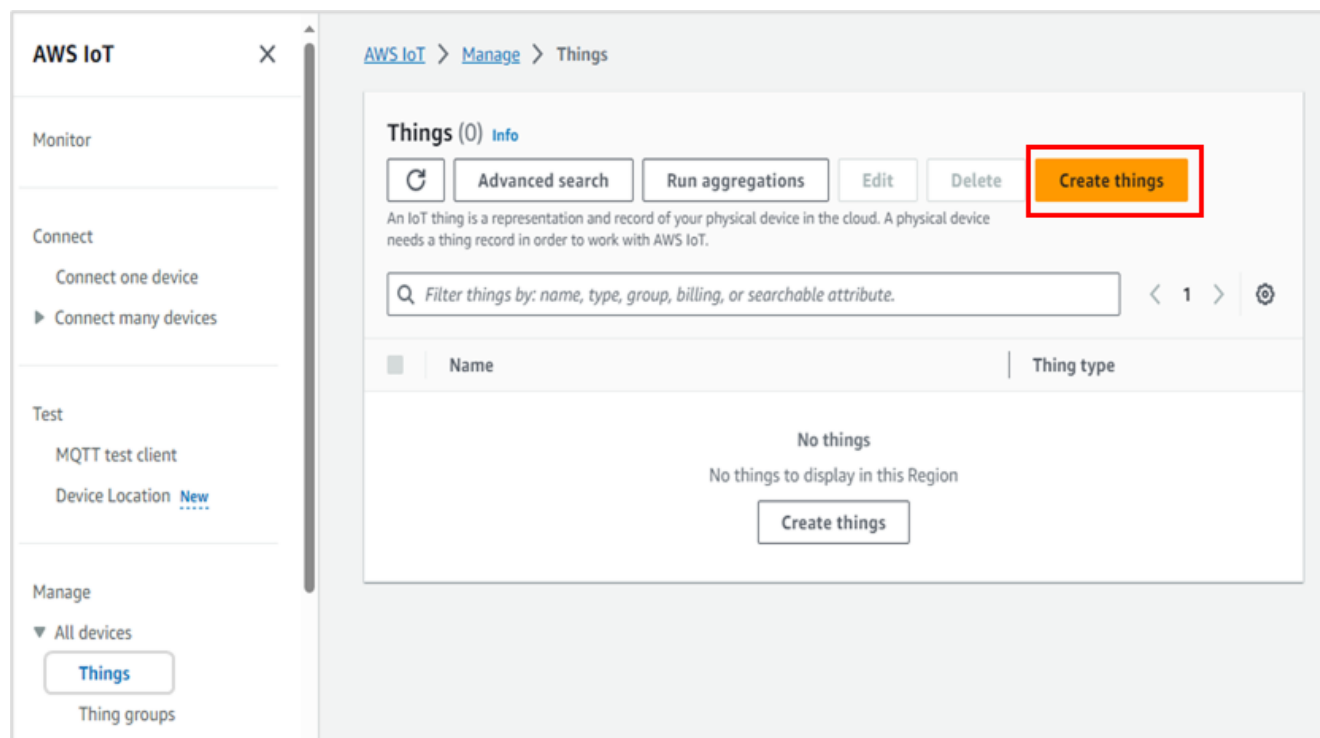

Figure 18. Create things
2. Expand **All devices** and click **Things > Create things**, see Figure 18.